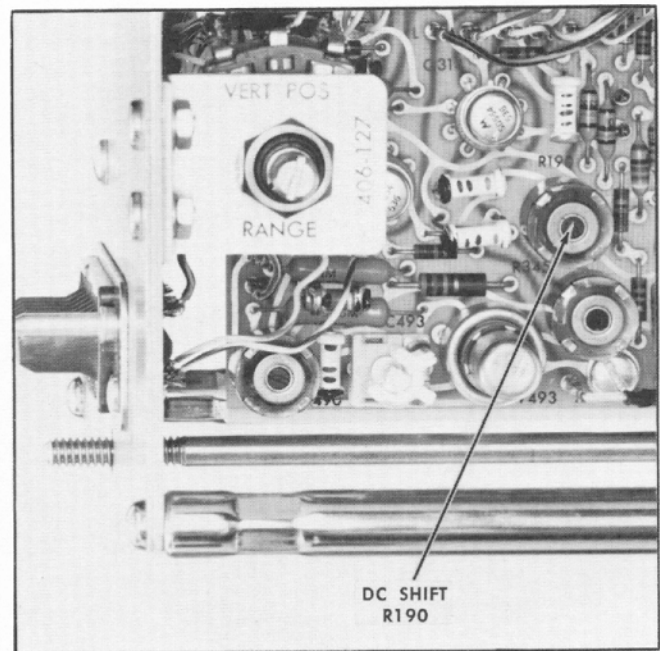

Fig. 6-15. Location of step 8 adjustment.
g. Set the +INPUT AC-GND-DC switch to the DC position for 20 seconds and then switch back to GND. Check that the trace returns quickly within ± 1 cm of graticule center. Within 20 seconds after the switch has been set to GND, check that the trace has not deviated more than 2.5 cm from graticule center. If the trace does not return to center screen within the limits described, adjust the DC SHIFT control (R190; see Fig. 6-15) to obtain the desired results.